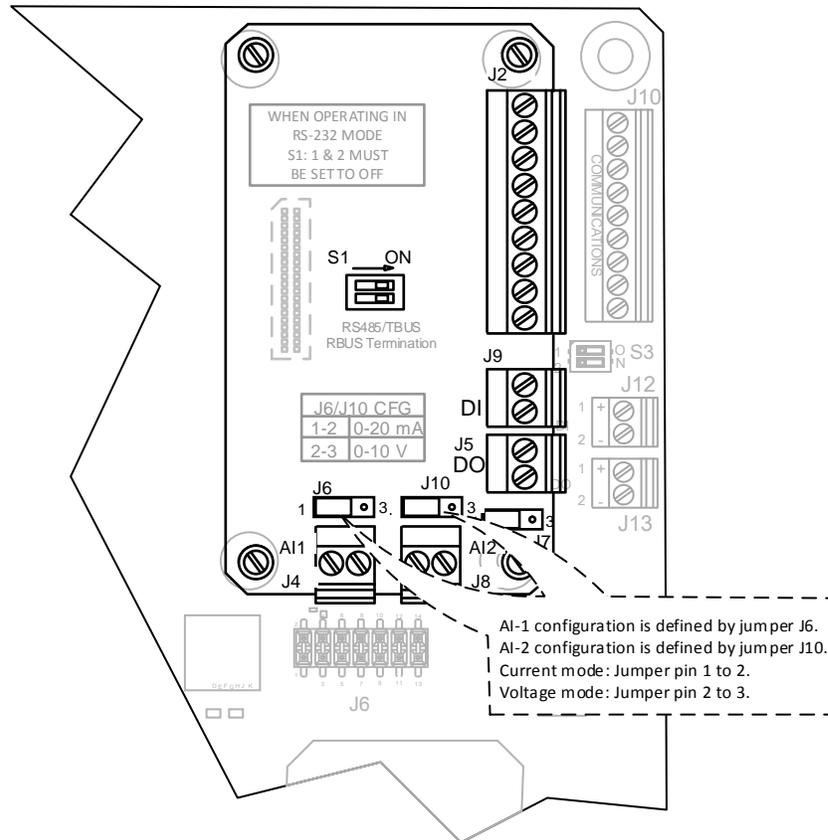

Figure 98: Analog Input mode selection
2. Verify that the I/O expansion corresponding jumper for the AI is set for voltage input (Figure 98).
3. Verify that the I/O expansion corresponding jumper for the AI is set for current input (Figure 98, *Analog Input mode selection*, on page 139).